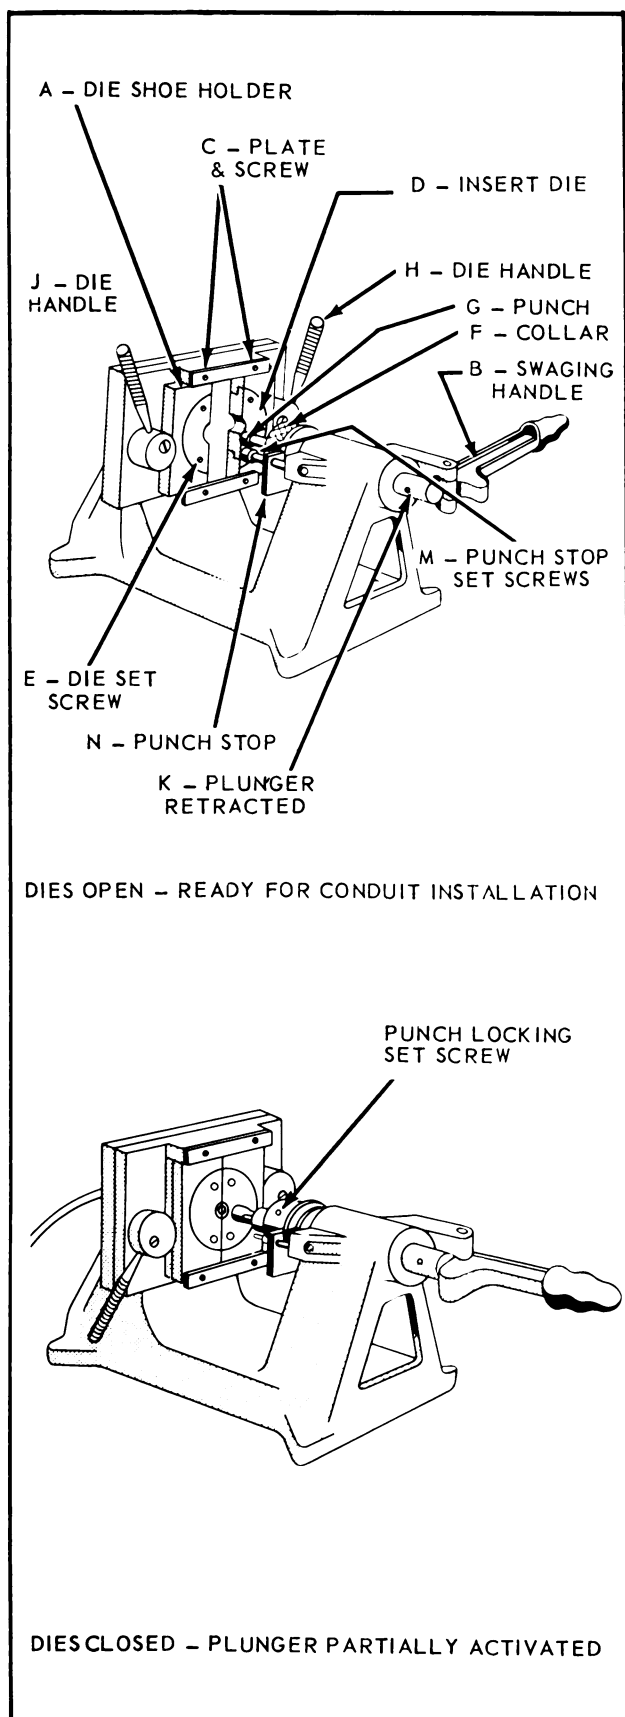

Figure 9-19. Breeze Ferrule Swaging Machine
a. Place die shoe holder "A" in swaging machine as shown in Figure 9-19. The countersunk portion should face swaging handle "B".
9-18. FABRICATION OF FLEXIBLE BRASS CONDUIT. Refer to Figures 9-19 through 9-21. Fabricate flexible brass conduit, using Breeze swaging machine, as follows: